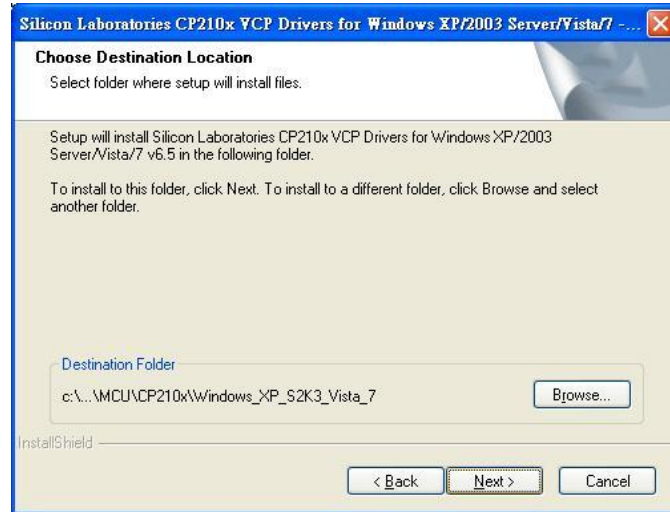

Figure 4-4: Choose Destination Location
Step 5: The **Choose Destination Location** window appears (**Figure 4-4**). Select a folder to install the driver.